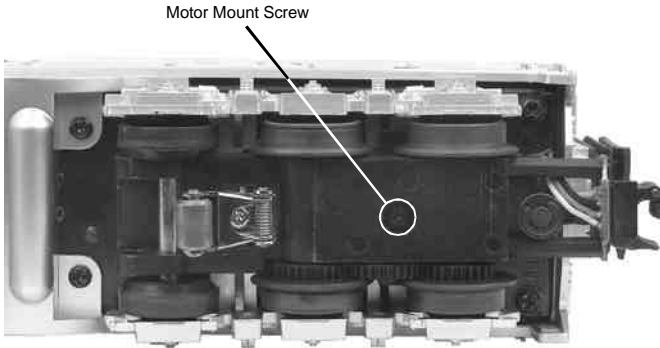

Figure 5
2. Once the cab is removed, remove the trucks by unscrewing the black Phillips motor mount screw located on the underside of the drive trucks (see Fig. 5).
Lubricate the outside truck block idler and drive gears with grease. Use the diagram shown in Figure 5 below as a guide and add grease to the points marked.